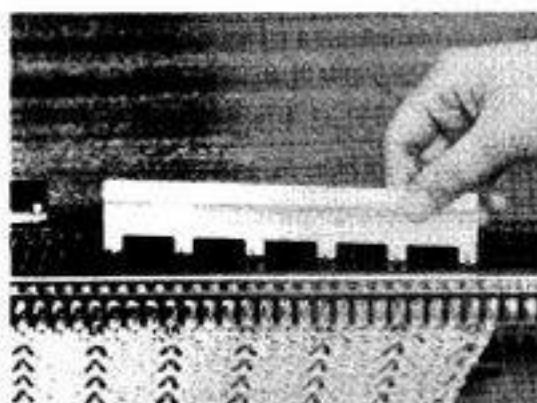

Fig.69
- With the carriage on right. Using 3 x 1 selector plate, push forward into position (E) every 4th needle from right end. (Fig.69)